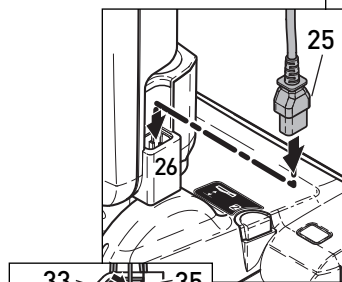
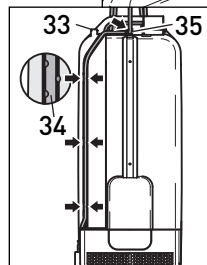
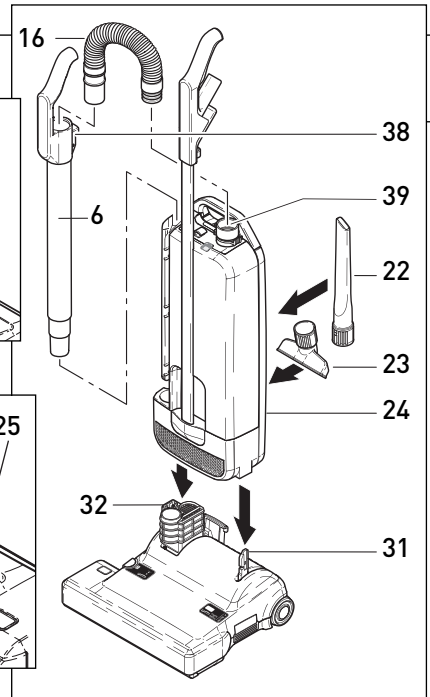

Figure 2
Figure 3
Figure 4
2. Attach the power cable (15) to the machine. Push the rubber cable plug (25) into the cable plug socket (26) on the side of the vacuum (figure 2). Ensure the rubber plug is fully inserted down into the socket. Fit the cable into the groove (34 - figure 3) located in the cleaning wand recess on the front of the machine. Attach to the cable hooks on the top of the bag housing (35 - figure 3) and on the rear of the handle (36 - figure 4). Finally, loop the cable as shown in figure 4 and insert it into the cable cleat (37). You will hear a "click" when the cable is fully inserted. To remove the cable, push the cable release button (17) next to the cable cleat (37) and remove the cable.
3. Push the black end of the attachment hose (16) into the connecting tube (39) so that it clicks into place. Insert the cleaning wand (6) into the swivel neck opening and seat the handle (2) over the projection tab (33 - figure 3). To remove the hose, squeeze the retaining ring (3) and pull the hose out of the connecting tube.